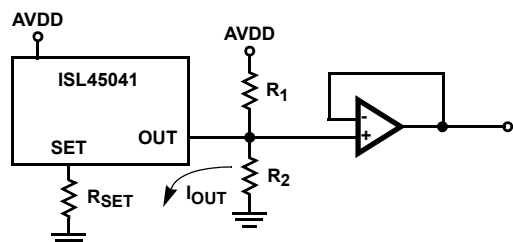
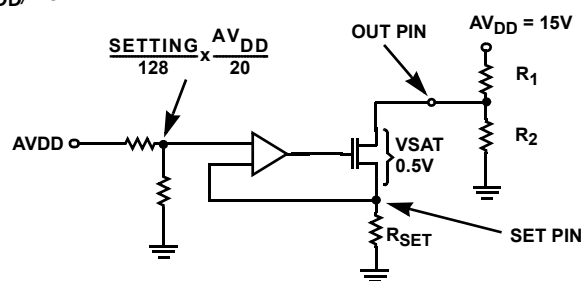

FIGURE 2. OUTPUT CONNECTION CIRCUIT EXAMPLE
FIGURE 3. OUTPUT CONNECTION CIRCUIT EXAMPLE
**Electrical Specifications** Test Conditions:  $V_{DD} = 3.3V$ ,  $AV_{DD} = 18V$ ,  $R_{SET} = 5k\Omega$ ,  $R1 = 10k\Omega$ ,  $R2 = 10k\Omega$ ; (See Figure 2) Unless otherwise specified. Typicals are at  $T_A = +25^\circ C$ . **Boldface limits apply across the operating temperature range, 0 °C to +85 °C.**
**Electrical Specifications** Test Conditions:  $V_{DD} = 3.3V$ ,  $AV_{DD} = 18V$ ,  $R_{SET} = 5k\Omega$ ,  $R1 = 10k\Omega$ ,  $R2 = 10k\Omega$ ; (See Figure 2) Unless otherwise specified. Typicals are at  $T_A = +25^\circ C$ . **Boldface limits apply across the operating temperature range,  $0^\circ C$  to  $+85^\circ C$ .** (Continued)
The external  $R_{SET}$  resistor sets the full-scale sink current,  $I_{SET}$  maximum, that determines the lowest voltage of the external voltage divider  $R_1$  and  $R_2$  (Figure 2). The voltage difference between the OUT pin and SET pin (Figure 3), which are also the drain and source of the output transistor, must be greater than 1.75V. This will keep the output transistor in its saturation region to maintain linear operation over the full range of register values. Expected current settings and 7-bit accuracy occurs when the output MOS transistor is operating in the saturation region. Figure 3 shows the internal connection for the output MOS transistor. The value of the  $AV_{DD}$  supply sets the voltage at the source of the output transistor. This voltage is equal to  $(\text{Setting}/128) \times (AV_{DD}/20)$ . The  $I_{SET}$  current is therefore equal to  $(\text{Setting}/128) \times (AV_{DD}/20 \times R_{SET})$ . The drain voltage is calculated using Equation 2. The values of  $R_1$  and  $R_2$  (Equation 2) should be determined using  $I_{OUT}$  maximum (setting equal to 128) so the minimum value of  $V_{OUT}$  is greater than  $1.75\text{V} + AV_{DD}/20$ .